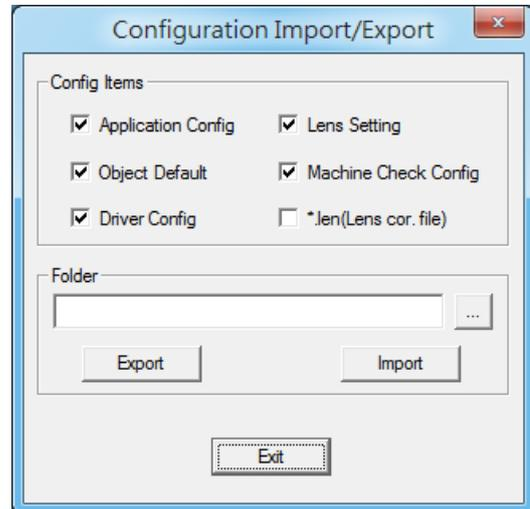

Fig. 1.1.70
1. Click on “File” → “Configuration Import/Export” to bring out dialog seen as fig. 1.1.70.
3. If file is already existed, will pop-up a dialog to confirm to replace, skip, or rename the file. See fig. 1.1.70.